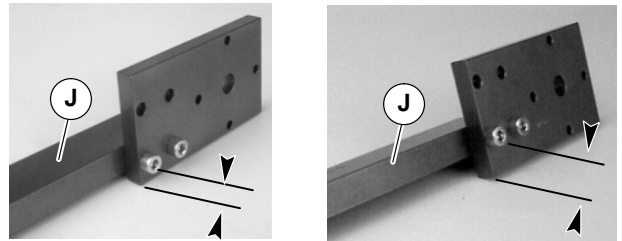

Figure 4
3. Check gearmotor support assembly (J of Figure 4) setup: 2100 (left) and 4100 or 6100 (right).